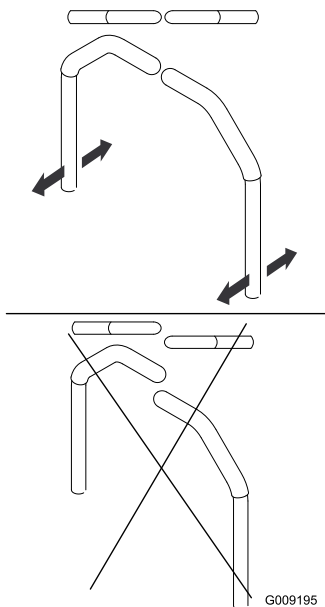

Figure 67
4. Align the levers in the front-to-rear position by bringing the levers together to the NEUTRAL position, and slide them until they are aligned, then tighten the bolts (Figure 67).